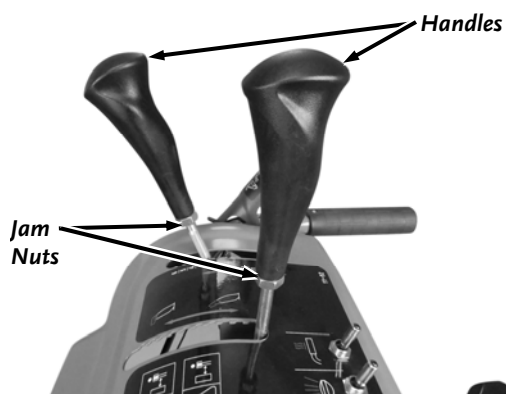

Figure 20
20. Screw the Handles onto the Shift and Deflector Levers and tighten the Jam Nuts using a 17mm Wrench (**Figure 20**).